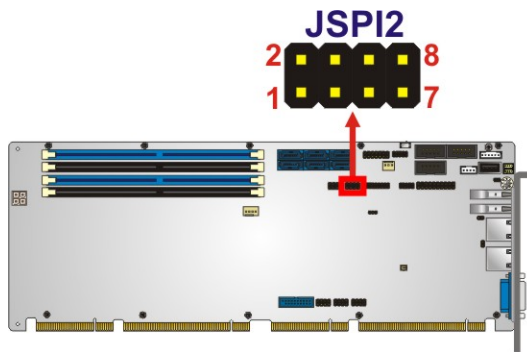

Figure 3-22: SPI EC Flash Connector Location
- CN Location:** See **Figure 3-22**